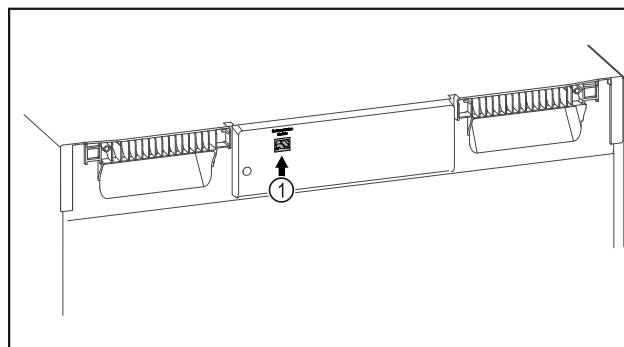

Fig. 86
- SmartModule Fig. 86 (1) is in use.